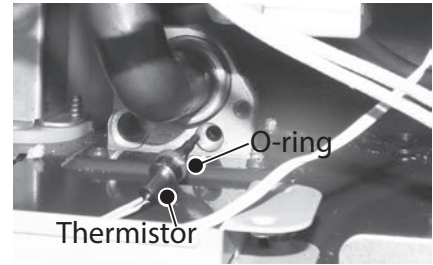

Figure 192 - Installing O-ring to thermistor
- 22** Locate the small O-ring (3.8 x 1.9) provided in the kit. Place the O-ring over the thermistor and install it in the base of the outlet assembly. See Figure 192.